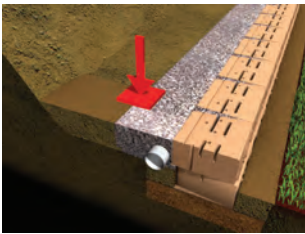

Figure 1
1. Prepare to install VERSA-Grid by placing VERSA-LOK units, backfilling and compacting up to the height of the first (lowest) soil-reinforcement layer specified on final, professionally engineered construction drawings (Figure 1)